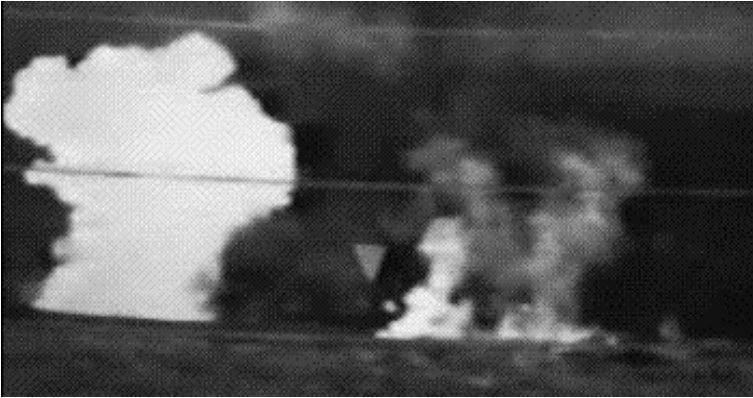

Figure 6-1-15: Example of WP (Tank under Triangle)
46. In Figure 6-1-15 two M60 tanks are 2100 metres from the thermal imager. In the left image an artillery barrage impacts 100 metres from the thermal imager's position. Rounds landing on the side are evident by the flying hot shrapnel and clods of dirt. The target is only obscured when a round lands directly in the field of view. The obscuration is of a shorter time than encountered with WP. In the right image the barrage impacts 1000 metre from the thermal imager. The effects of flash and debris tend to obscure the target for a significantly longer period of time. This barrage and the previous one are of comparable intensity. They demonstrate that